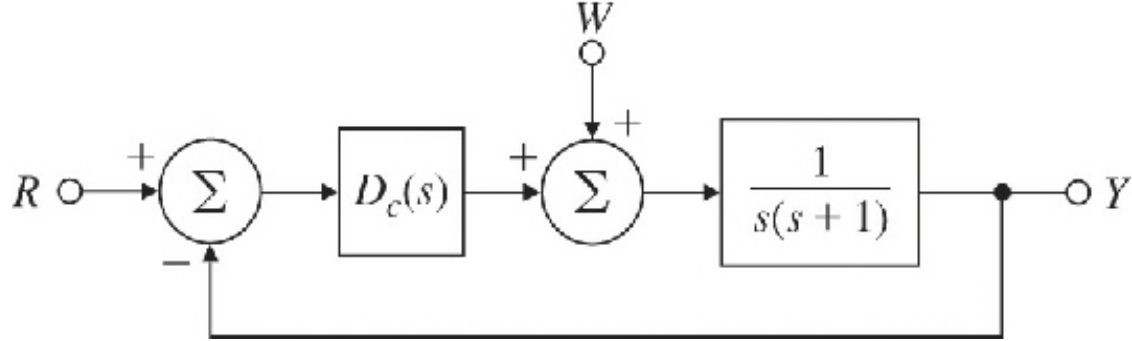

Fig. 5.63 Control system for Problem 5.33
33. Consider the Type 1 system drawn in Fig. 5.63. We would like to design the compensation  $D_c(s)$  to meet the following requirements: (1) The steady-state value of  $y$  due to a constant unit disturbance  $w$  should be less than  $\frac{4}{5}$ , and (2) the damping ratio  $\zeta = 0.7$ . Using root-locus techniques,